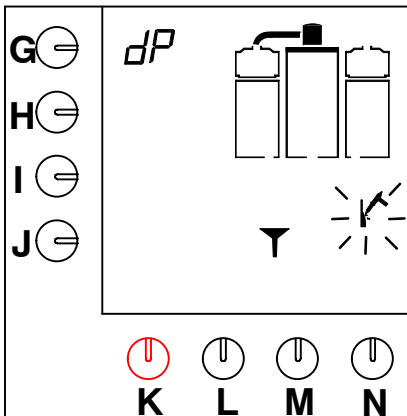

Fig. 16 Coffee-making system asks for descaling solution
- A signal sounds, the hammer symbol flashes and a funnel appears on the display (fig. 16).